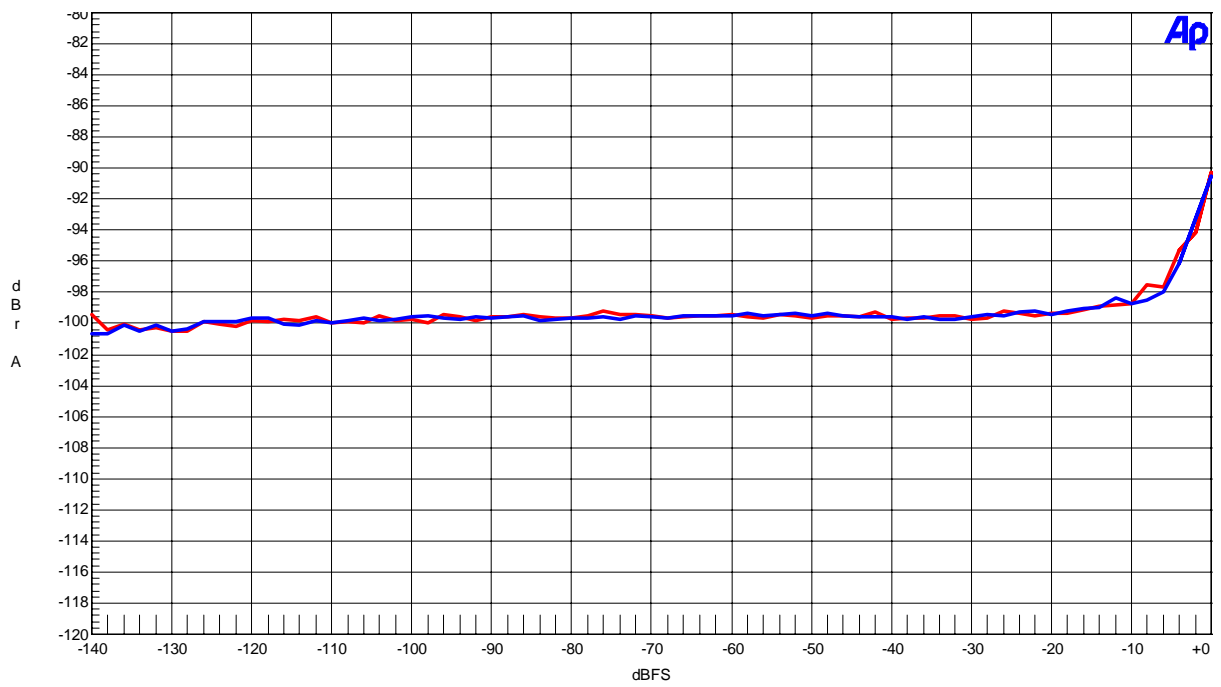

Figure 32. THD+N vs Input Level (Input Frequency=1kHz)
- Figure 32. THD+N vs Input Level (Input Frequency =1kHz)